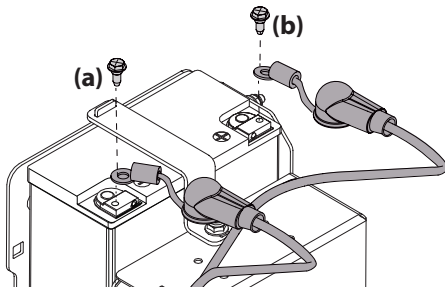

Figure 3
2. Remove the vertical mount bolt securing the black negative battery lead (a) to the negative battery post (marked NEG (-)). Move the cable away from the negative battery post. See Figure 3.
3. Remove the vertical mount bolt securing the red positive battery lead (b) to the positive battery post (marked POS (+)). Move the cable away from the positive battery post. See Figure 3.